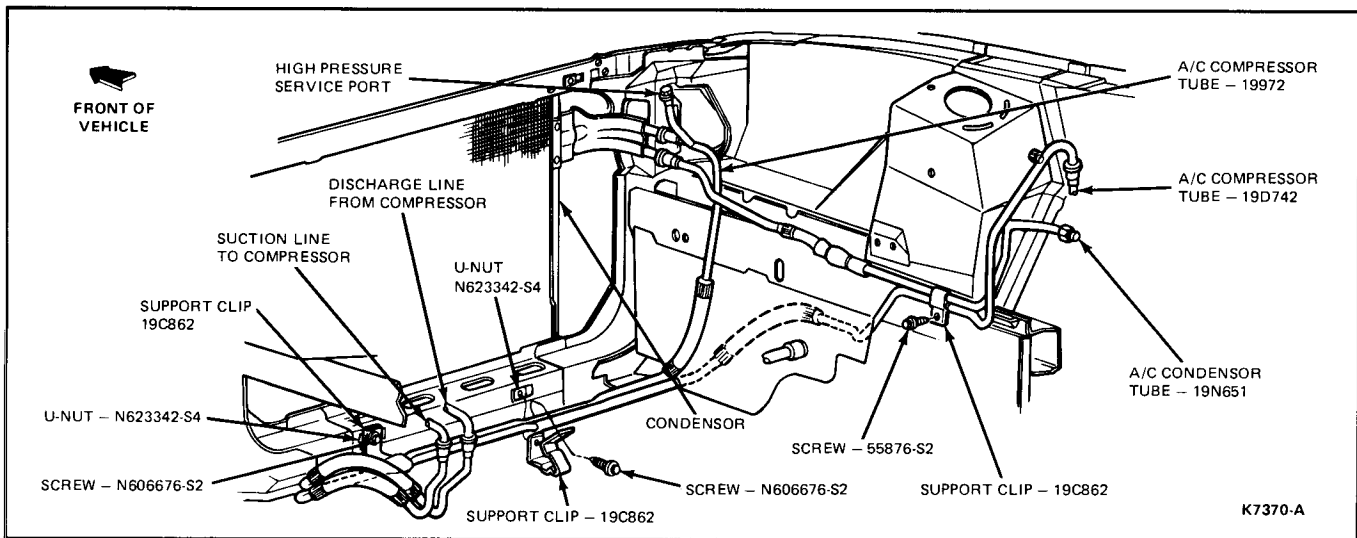

FIG. 28 A/C Hose Installation
3. Route the new refrigerant line with the protective caps installed (Fig. 28).